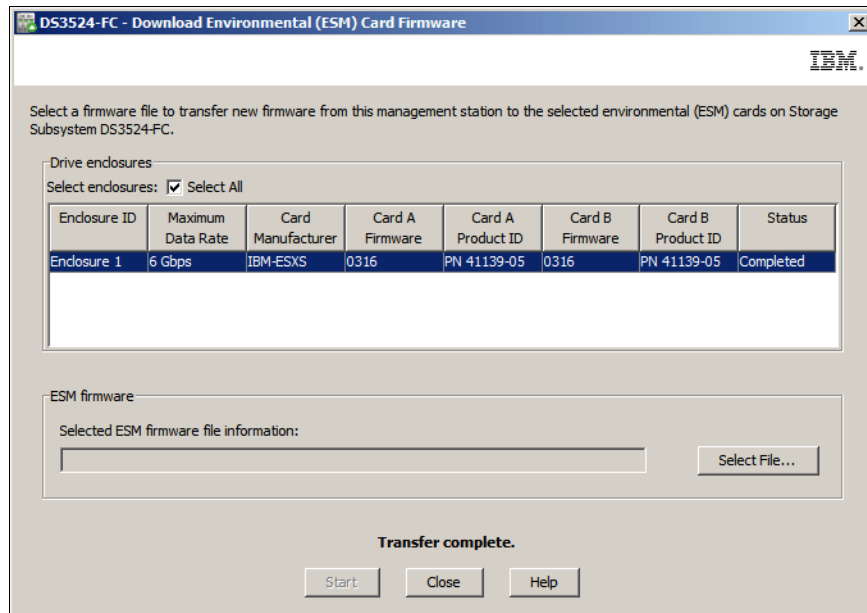

Figure 14-65 ESM firmware transfer completed
5. The status will change to completed when the ESM firmware has been downloaded as shown in Figure 14-65 on page 372.